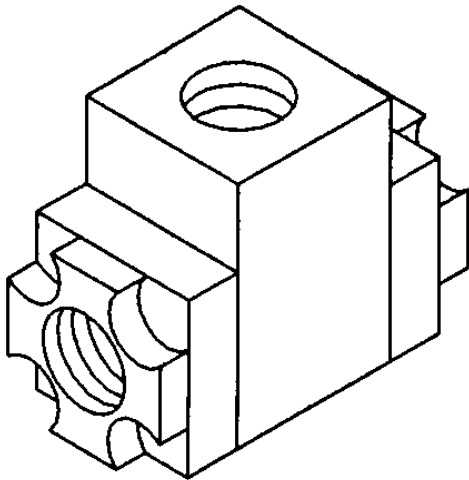

FIGURE 4-6 – SHUTTLE VALVE
Shuttle Valve (FIGURE 4-6) – Also known as a double check valve, the shuttle valve is a device which will take two (2) supply signals and allow the one with the highest pressure to pass through. The shuttle valve is used to provide control air pressure from either the reservoir or plant air system, as required during different operating conditions.